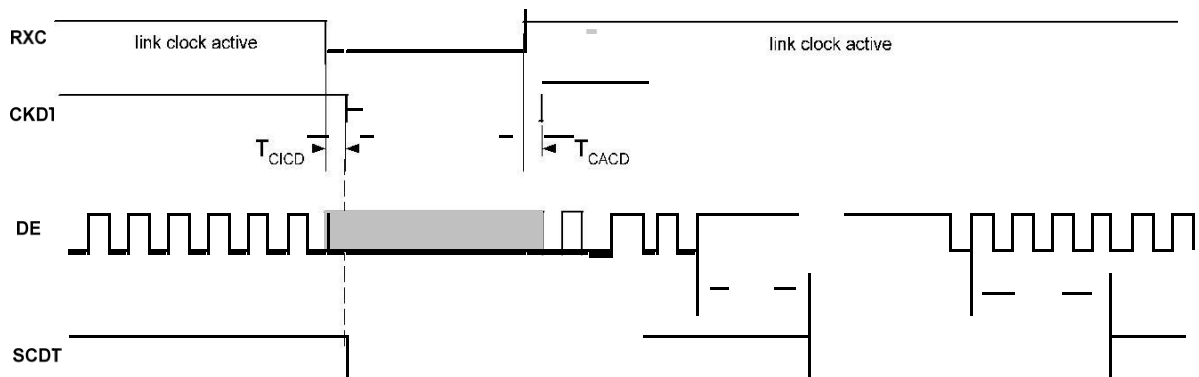

Figure 11. SCDT and CKDT Timing from DE or RXC Inactive/Active
- The SCDT shown in Figure 11 is a register bit. SCDT remains HIGH if DE is held LOW while RXC remains active, but SCDT changes to LOW if DE is held HIGH while RXC remains active.
- The CKDT shown in Figure 11 is a register bit. CKDT changes to LOW whenever RXC stops, and changes to HIGH when RXC starts. SCDT changes to LOW when CKDT changes to LOW.